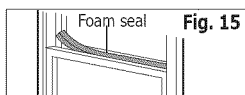

Fig. 15
7. Cut the foam seal to an appropriate length and seal the open gap between the top window sash and outer window sash, as shown in Fig.15.